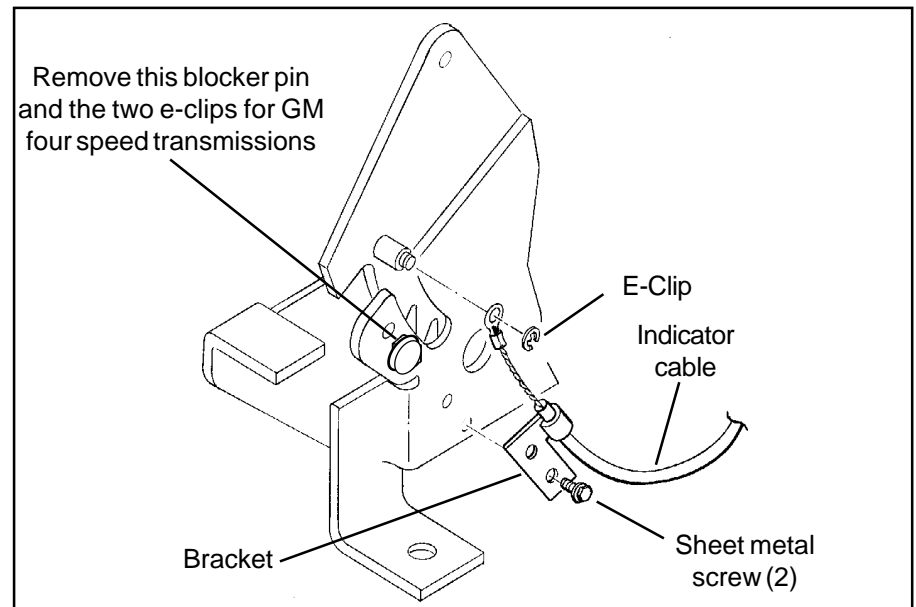

Figure 3
STEP 9. Just before the final installation of the shifter in the vehicle, attach the indicator cable to the side of the shifter as shown in **Figure 3**. The indicator cable bracket is secured to the shifter mechanism with two #6 x 3/4" sheet metal screws and the eyelet on the end of the indicator cable is secured to the cable pin by a supplied small e-clip.